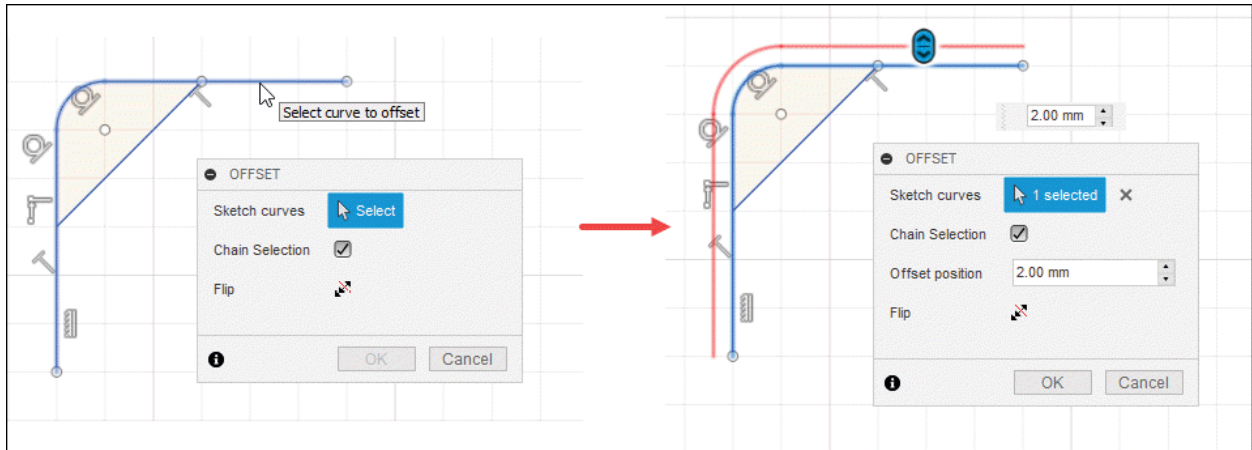

Figure-89. Procedure of offset
- Click in the **Offset position** edit box and type desired distance for offset; refer to Figure-89. You can also set the offset distance by moving the drag-handle from screen.